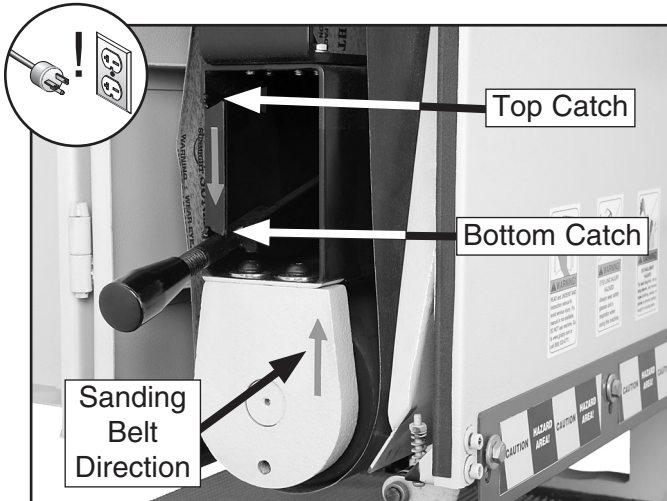

Figure 19. Sanding belt tension lever secured under bottom catch.
- b. Use moderate force to push the tension lever down, then secure it under the bottom catch, as shown in **Figure 19**.
Note: Some sanding belts are designed to sand in only one direction and have arrows printed on the inside of the belt to show that direction. The front of the sanding drum support has an arrow pointing up showing the direction the sanding belt will travel when in operation (see **Figure 19**). Match these two directions as you install the sanding belt.